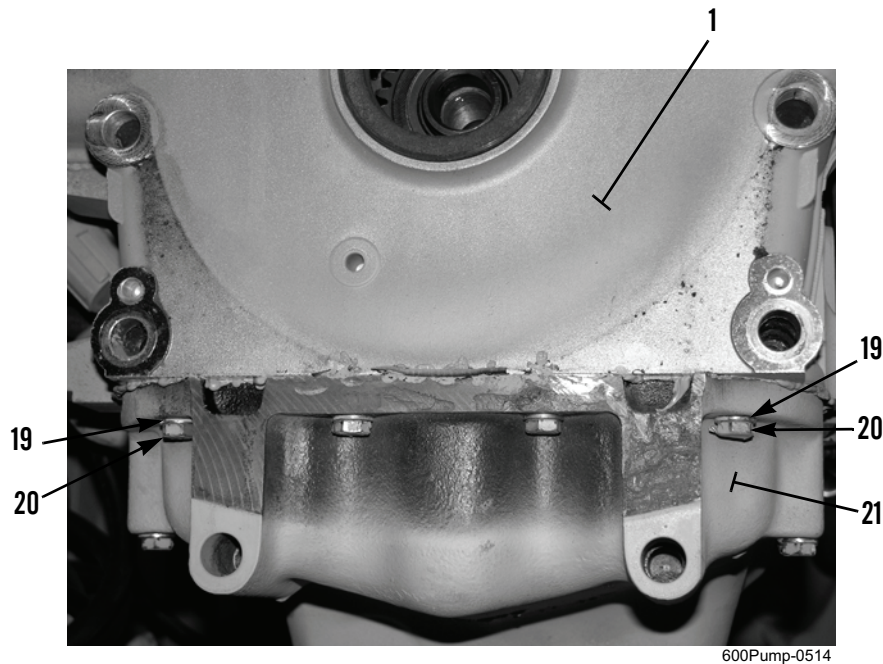

Figure 11. Oil Pan Bolts.
8. Install four washers (Figure 11, Item 19) and bolts (Figure 11, Item 20) to oil pan (Figure 11, Item 21) and front cover (Figure 11, Item 1). Tighten bolts to 16 to 21 lb-ft (22 to 28 Nm).